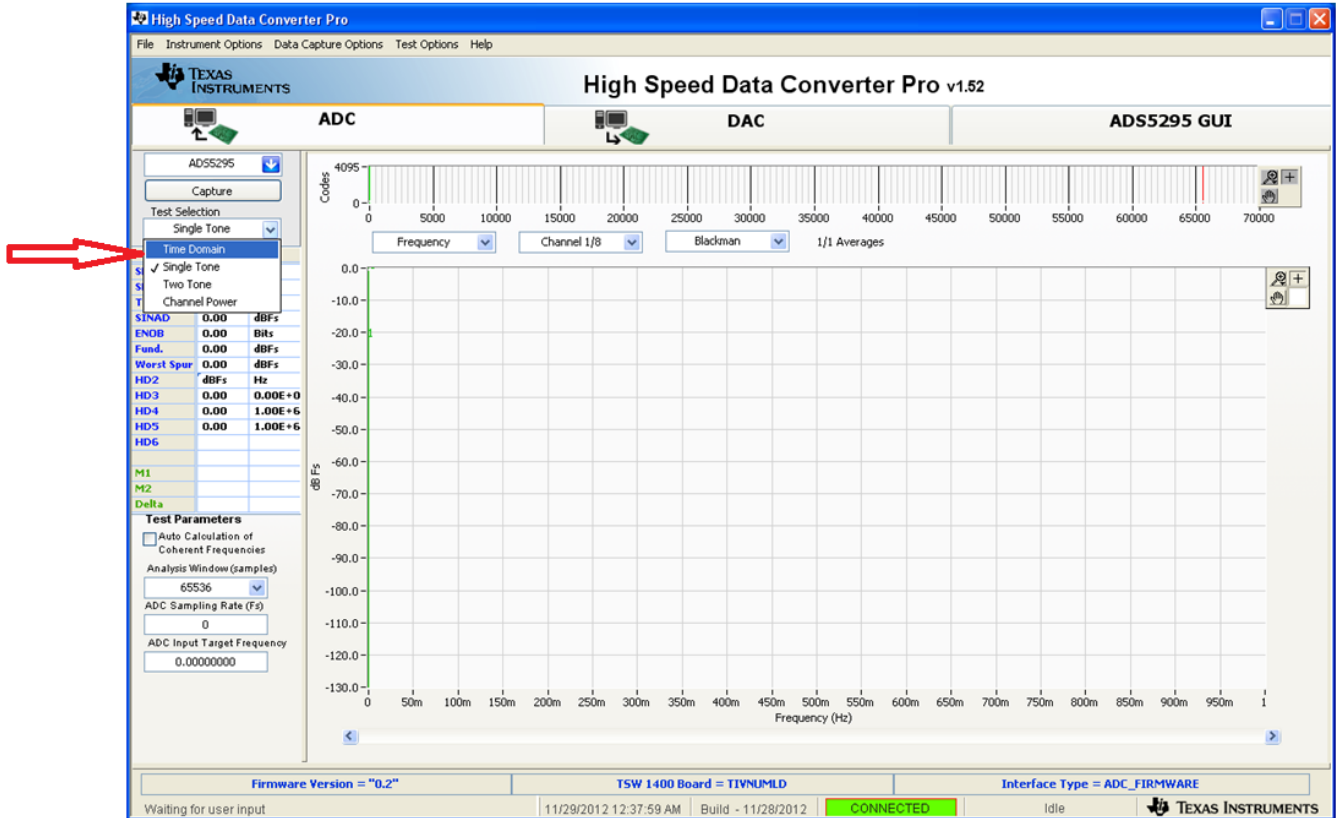

Figure 10. Time Domain Test
- On the ADC tab of the *High Speed Data Converter Pro* GUI, select **Time Domain** from the **Test Selection** drop down menu as shown in Figure 10.